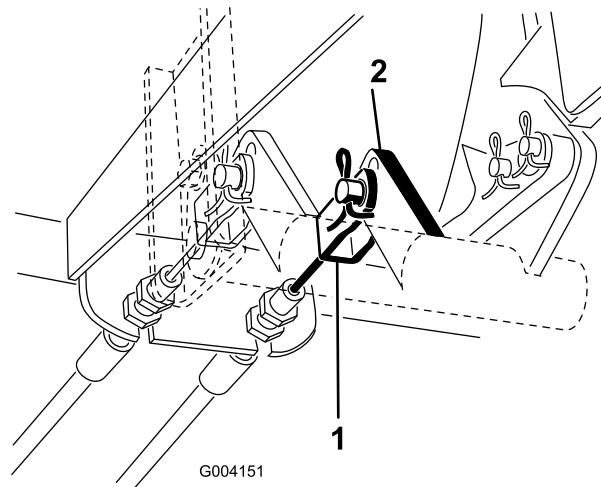

Figure 68
2. Disconnect the left brake cable from the brake pedal (Figure 68) and set the parking brake.